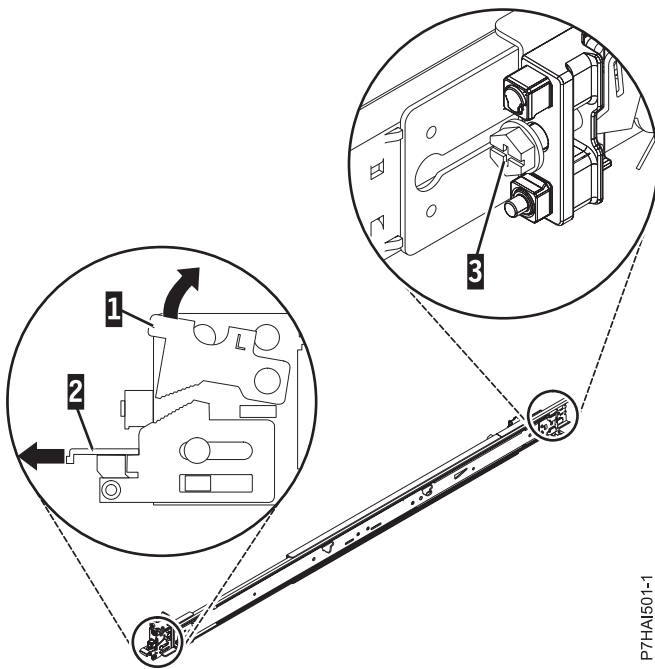

Figure 4. Opening the front latch and removing the rear screw
1. Each slide rail is marked with either an R (right) or an L (left). Select the left (**L**) slide rails and push up on the front movable tab (**1**). Then, pull out the front latch (**2**) to slide out the front side rail. If a thumbscrew is installed in the slide rail (**3**), remove it as shown in Figure 4.